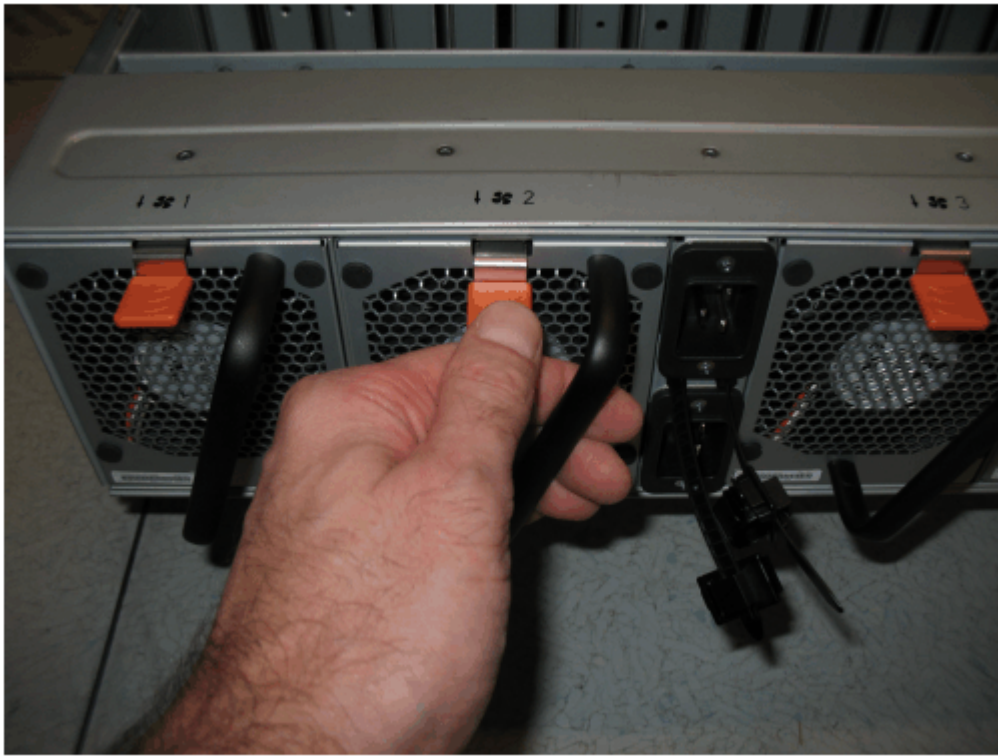

Figure 134. Fan module release tab
2. Press the release tab on the fan module, as Figure 134 on page 187 shows.